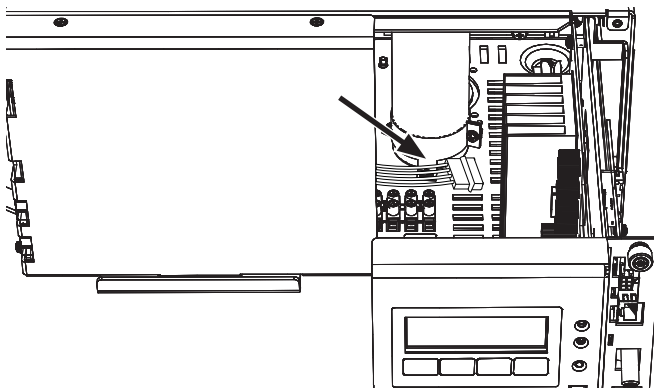

Fig. 2-17, Transformer Harness
1. Remove the Inverter Module to access the Transformer Harness (see Fig. 2-17).